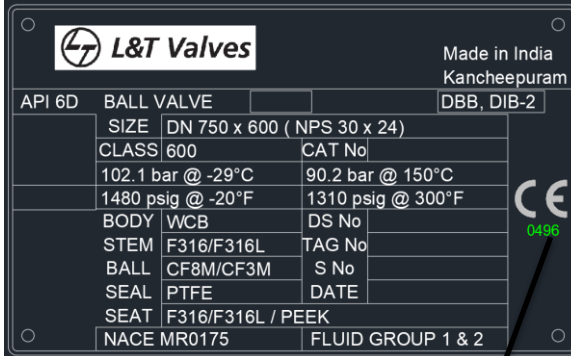

Fig. 9 - Handling a welded end valve with an extended stem
- In valves with extended stem, do not sling around pipes provided for draining venting and sealant injection, while handling. See Fig. 9.